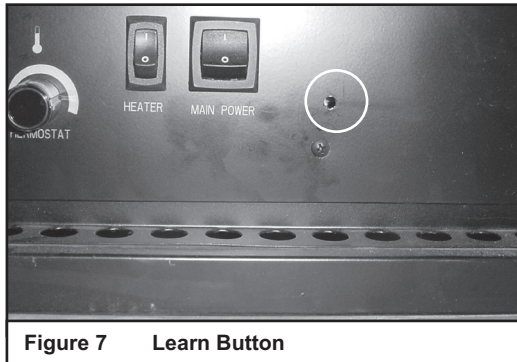

Figure 7 Learn Button
- Locate the learn button hole on front of control panel. See Figure 7.